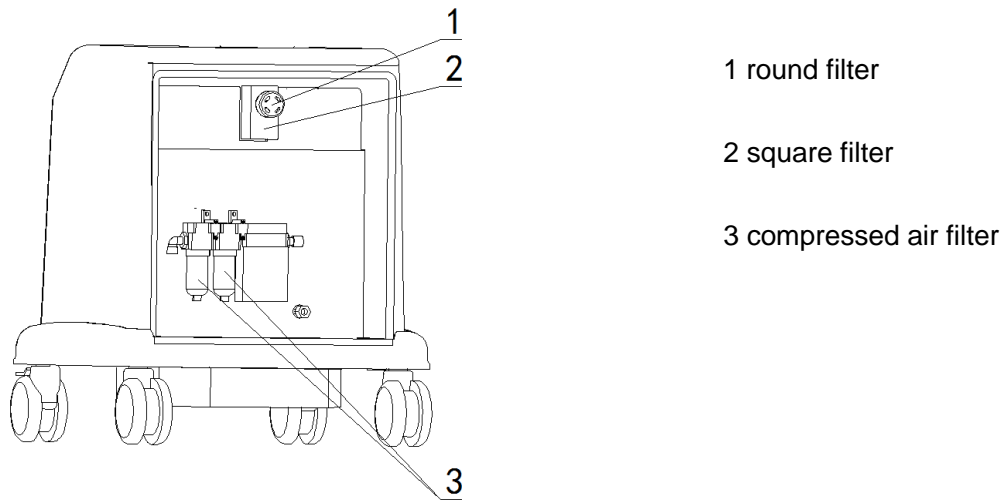

Fig 34 Clearance and replacement of input gas filter net
- Wash it by clear water (do not dry it by the heater), assemble it after it is dry. Refer to Fig 34.
- If equipped with air compressor, every 6 months or over 1500 hours, replace the square filter(Item 2 Fig 31). According to the aforementioned method to get out the square filter, assemble it after replacing. Refer to Fig 34.
- Replace the compressed air filter core (Item 3 Fig 34).